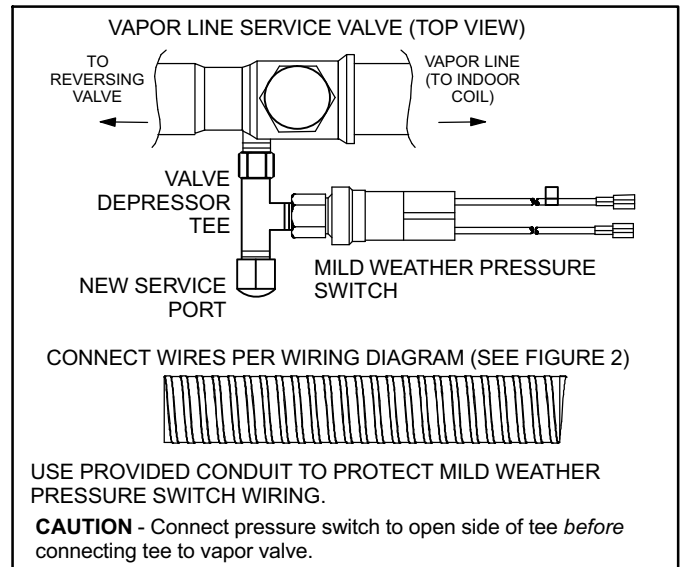

Figure 1. Typical Switch Installation
3. Install the valve depressor tee on the vapor valve service port with the mild ambient pressure switch attached. Run wires through provided conduit for protection (see figure 1).